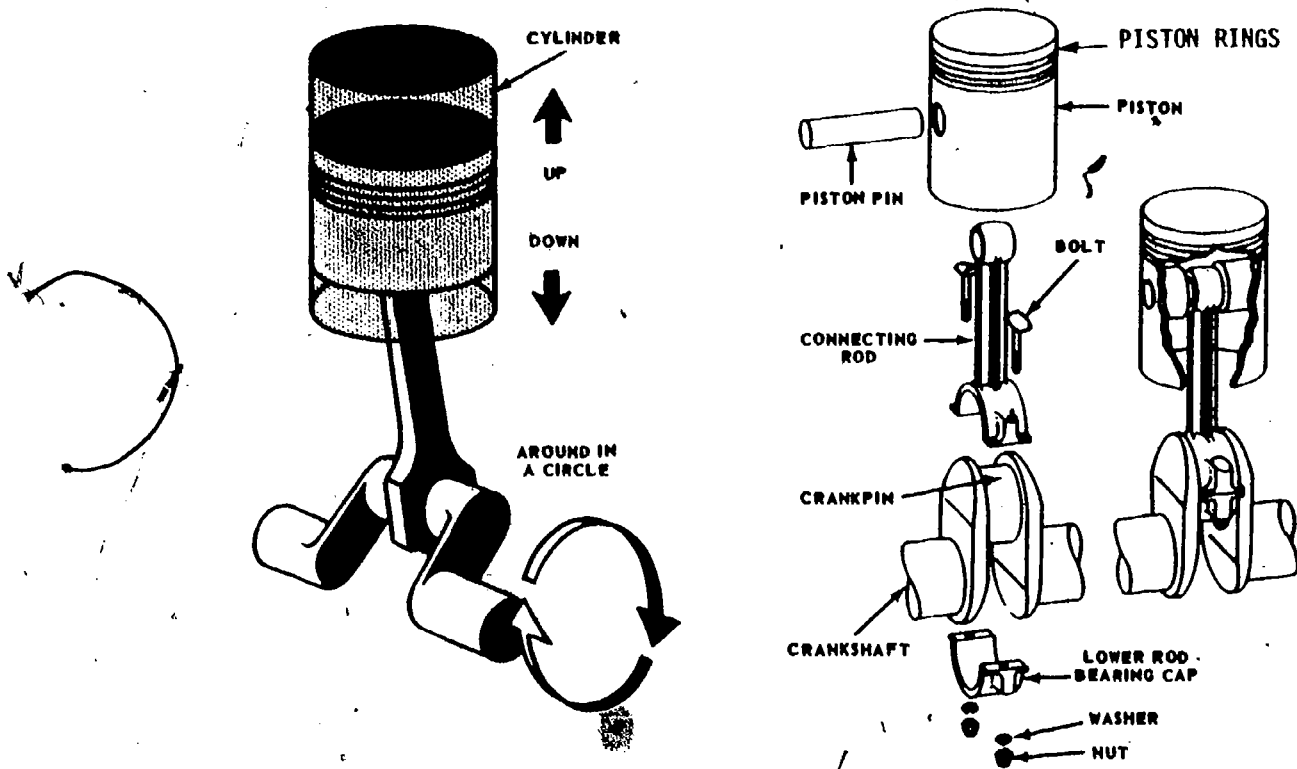

Fig 2-2. Cylinder, piston, connecting rod, and crankshaft for a simple one-cylinder engine.
- (2) Connecting rod and crank (fig 2-2). The up-and-down movement of the piston is called reciprocating motion. This reciprocating motion must be changed to rotary motion so the wheels of the vehicle can be made to turn. The change is accomplished by a crank on the crankshaft and a connecting rod which connects the piston to the crank. The connecting rod is connected to the piston by a piston pin which passes through bearing surfaces in the piston and the connecting rod. The lower end of the connecting rod is bolted to the crankpin on the crankshaft. As the piston moves up and down in the cylinder, the upper end of the connecting rod moves with it. The lower end of the connecting rod also moves up and down, but because it is attached to the crankshaft, it must also move in a circle with the crankpin. Each movement of the piston from top to bottom or from bottom to top is called a stroke. The piston takes two strokes as the crankshaft makes one complete revolution, an upstroke and a downstroke. When the piston is at the top of a stroke, it is said to be at top dead center (TDC). When it is at the bottom of a stroke, it is said to be at bottom dead center (BDC). These are called rock positions.